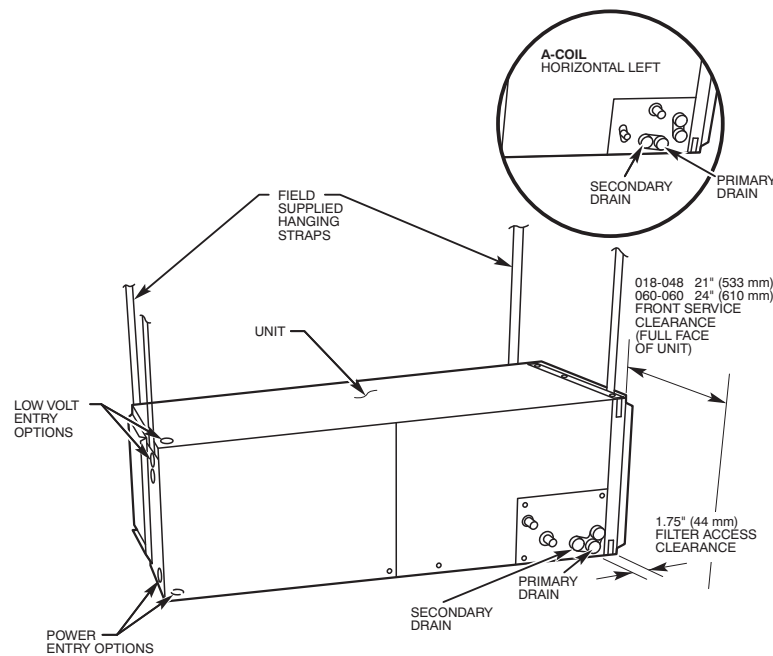
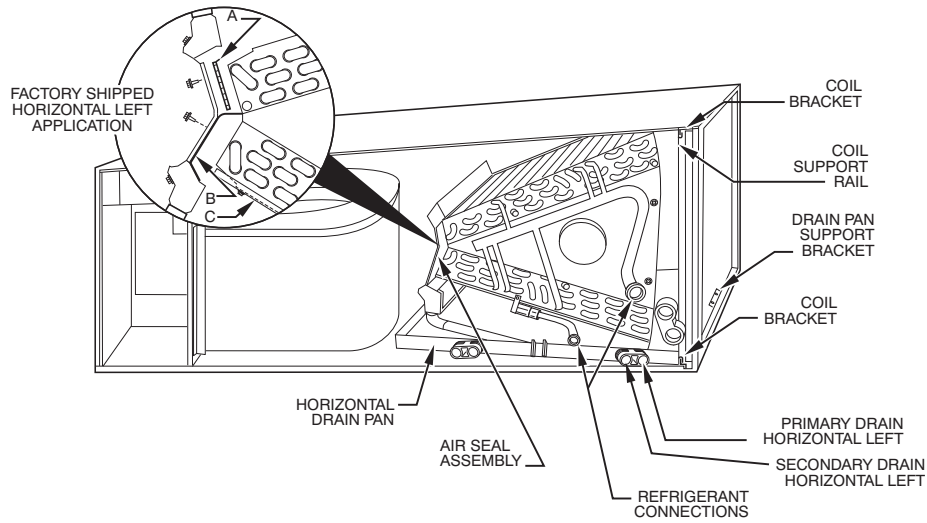

Fig. 2 – Slope Coil in Horizontal Left Application (Factory Configuration)
Fig. 3 – A-Coil in Horizontal Left Application (Factory Configuration)
Units must not be installed with access panels facing up or down. All other units are factory built for horizontal left installation (Fig. 2 and Fig. 3). When suspending unit from ceiling, dimples in casing indicate suitable location of screws for mounting metal support straps (Fig. 2).
- b. Remove air splitter (B) from coil seal assembly by removing 3 screws (Fig. 3 inset).
- c. Remove filler plate (A) and install air splitter (B) in place of filler plate.
- d. Install filler plate (A) as shown in horizontal right application.
- e. Remove condensate troughs (C) and install on opposite tube sheets.